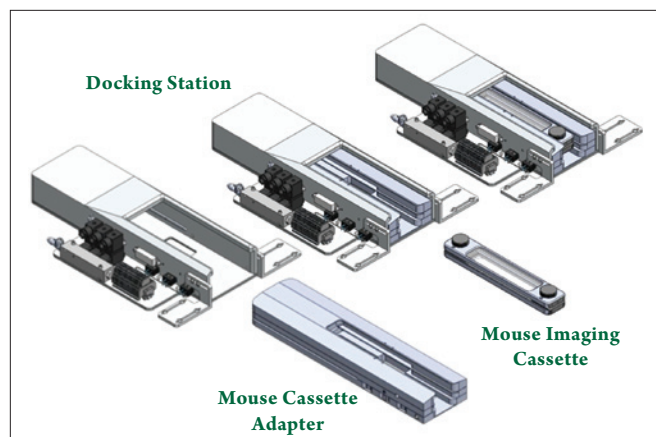

Figure 7. Diagrams representing MSIM and associated components.
16. The same docking station used for rat imaging can be used to image the mouse by inserting the mouse cassette adapter into the docking station (Figure 7). This creates a smaller sized docking port suitable for inserting the mouse imaging cassette. The insert also serves two additional functions; 1) it is heated by the system to provide an appropriate imaging environment, and 2) it re-routes the gas anesthesia to allow for efficient delivery to the mouse cassette.